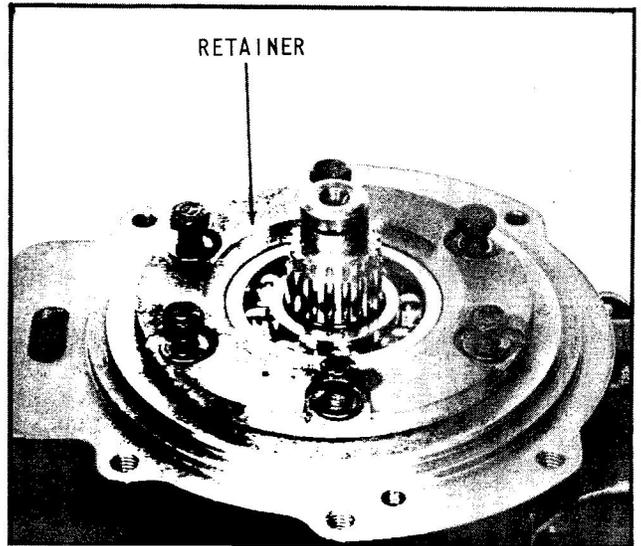
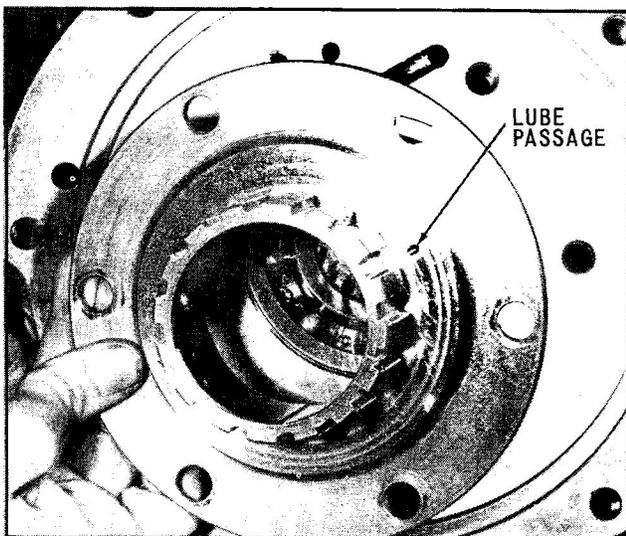

Fig. 58 Assemble Bearing Retainer (1.5 to 1 Ratio)
Fig. 57 Assemble Bearing Retainer (2 and 3 to 1 Ratio)
2. Install bearing retainer behind bearing and replace six 7/16-14 x 1 hex head bolts and lock washers, (Fig. 58). Lock washers are not used on 2 and 3 to 1 units, (Figs. 57 and 29).